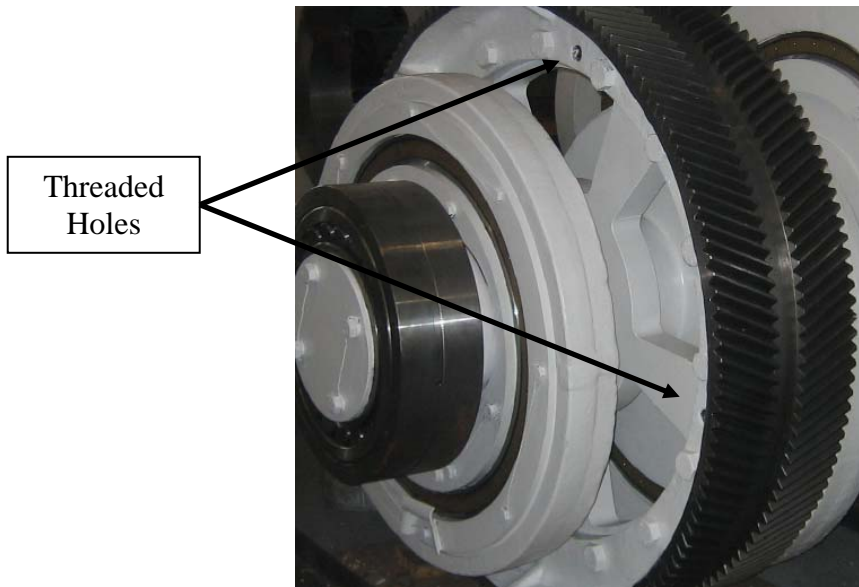

Figure 5-11 Main gear
1. Remove bolts and stop nuts that secure main gear to crankshaft (Figure 5-11).
2. Secure main gear to crankshaft with bolts and stop nuts (figure 5-11)